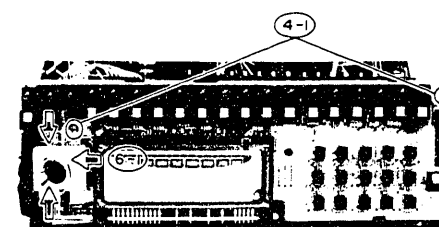

Fig. 28
4. Input key PC Board (Fig. 28)
6. Infrared rays receiver PC Board (Fig. 28)